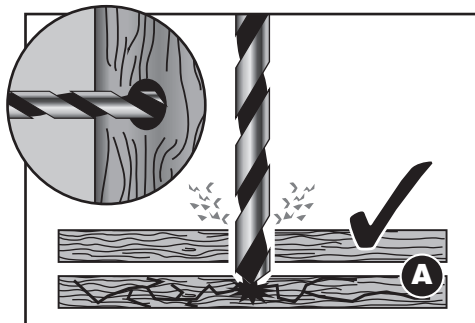

FIG.9
9.13 DRILLING WOOD AND PLASTIC – FIG.9